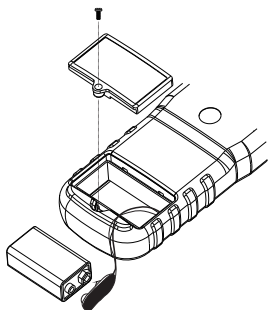

Figure 4. Battery Replacement
The apparatus uses a 9 V battery (supplied). To replace the battery, follow these steps and refer to Figure 4:
4. Replace the battery as shown in Figure 4.